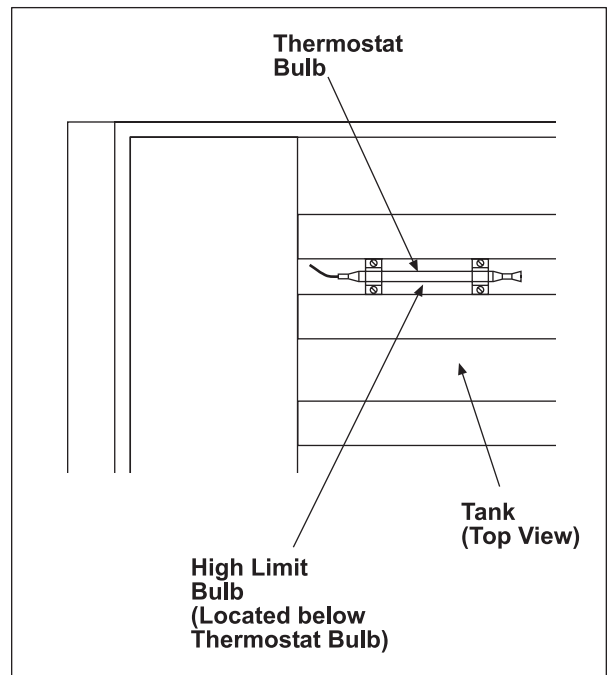

Figure 11
- Remove the high limit bulb from the clamp (Figure 11).